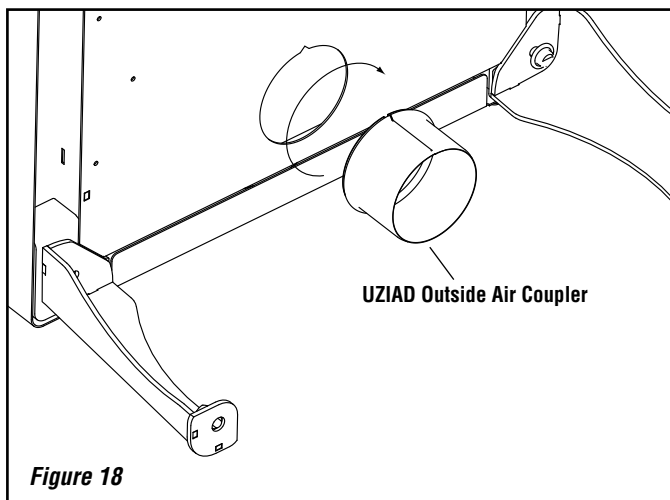

Figure 18
Through the Wall Outside Air Kit Installation (refer to Figures 18, 19 and 20)
- Install the coupler onto the existing collar on stove (see **Figure 18**).